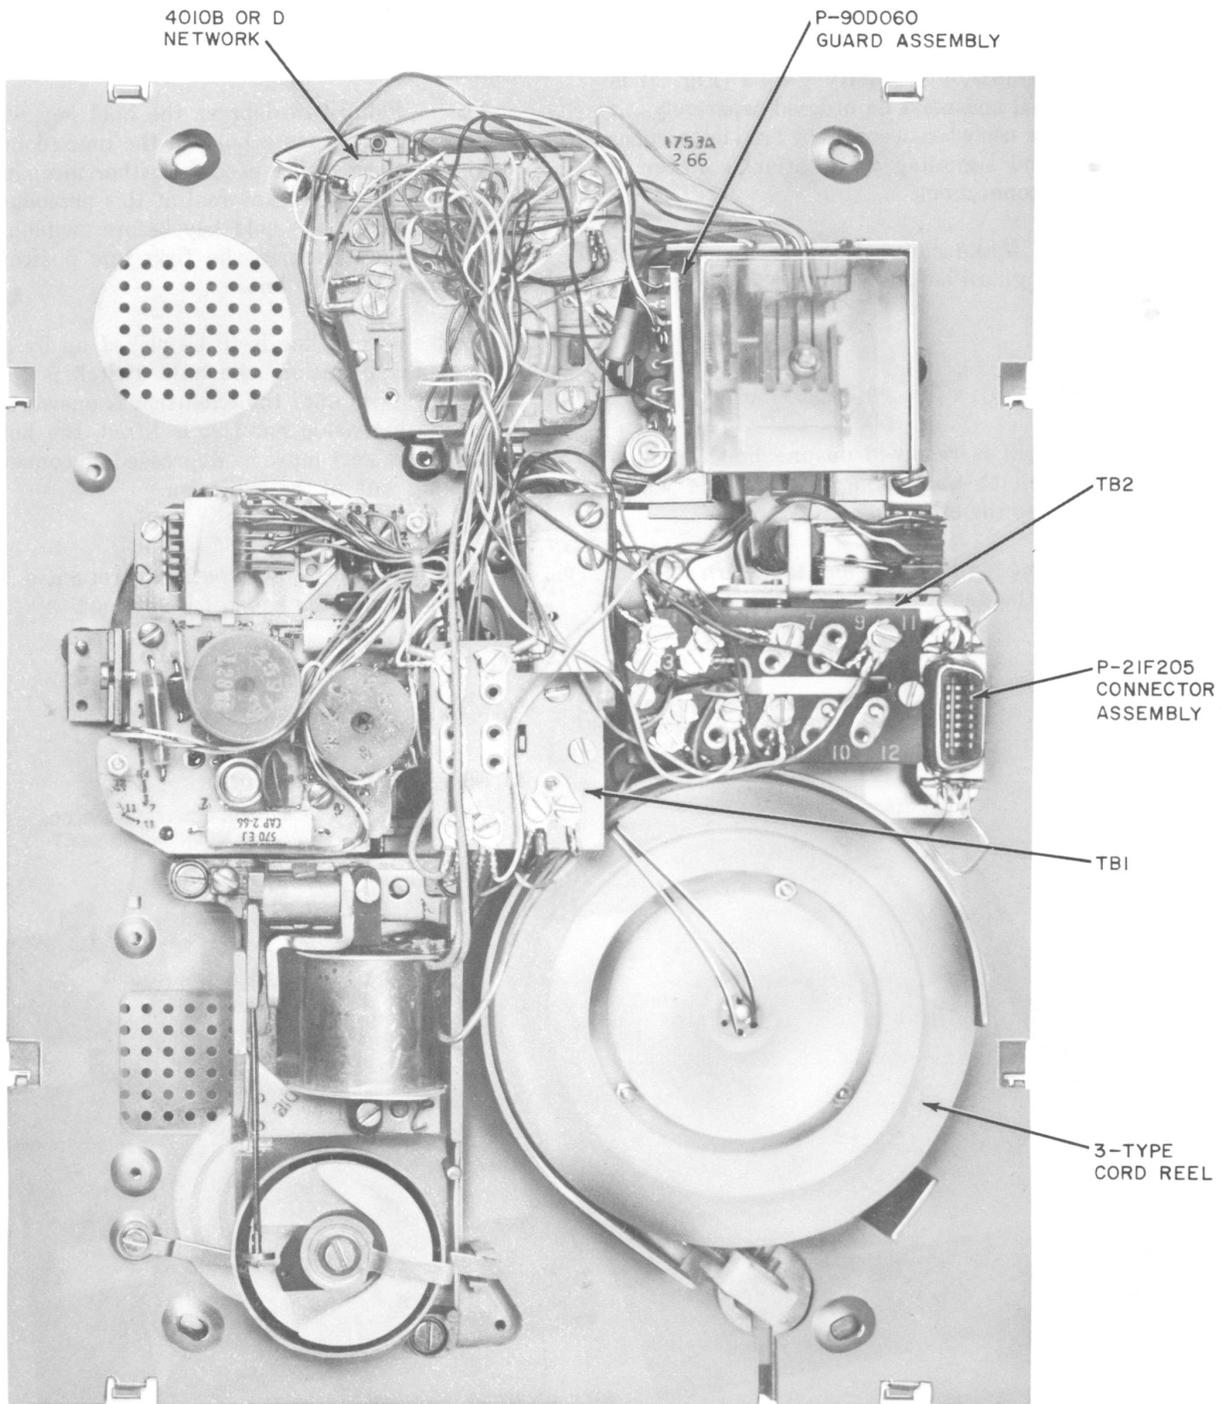

Fig. 2—1753-Type Telephone Set, Rear View
**3.04** The P-90D060 polarity guard (Fig. 2) is optional and must be ordered separately. It is intended for use when specified by local instructions for end-to-end signaling installations. Refer to Table B for connections.